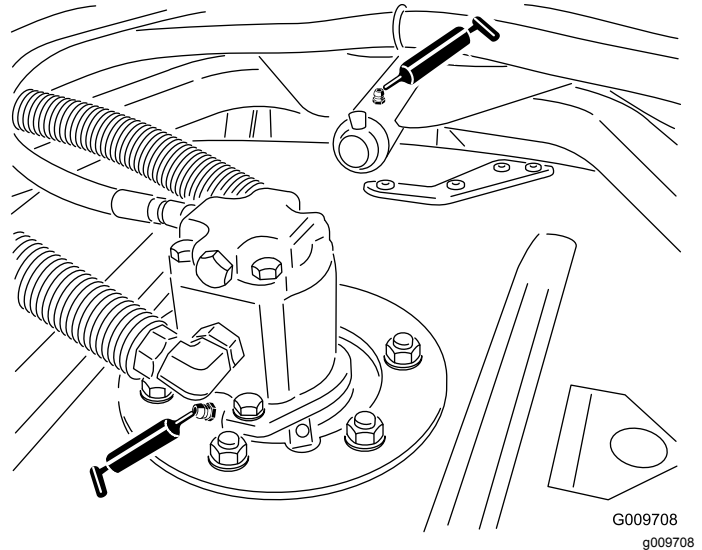

Figure 27
- Cutting unit spindle shaft bearings (2 per cutting unit) (Figure 27)
- Cutting unit carrier arm bushings (1 per cutting unit) (Figure 27)